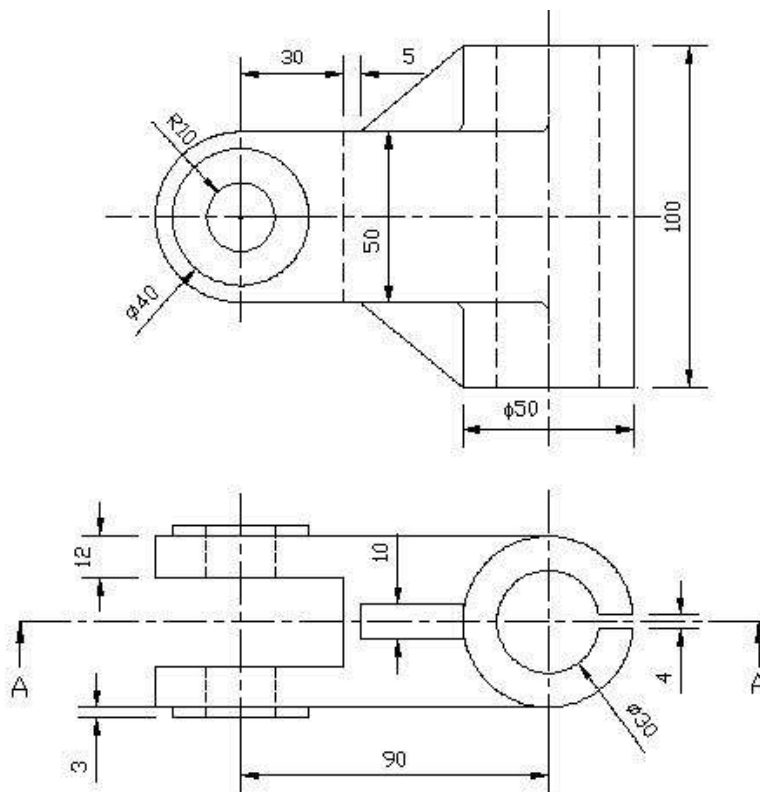

Fig. 4: ALL DIMENSIONS ARE IN mm [Q-5(b) OR ]
- (b) Fig. 4 shows two views of an object. Including Top view draw, 07